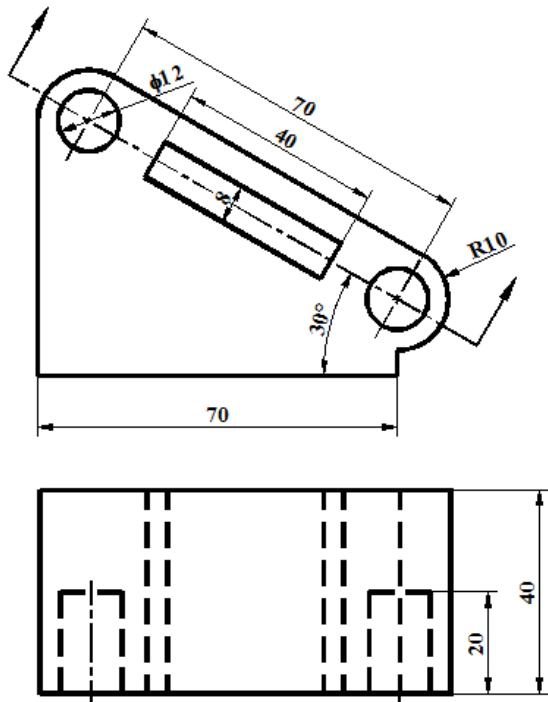

Figure 10.4
4. Draw auxiliary sectional view at A-A from the given views in Figure 10.4.